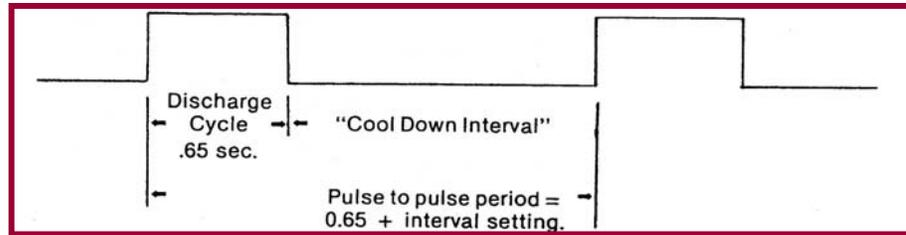

Figure 2.0-5: Automatic Mode Timing Cycle
**INTERVAL Adjust:** This rotary control is functional only in the Automatic mode and determines the time interval or delay between discharge pulses. The control is rotated clockwise to increase the time interval from a minimum of approximately 0.5 seconds to a maximum of 30 seconds. It should be noted that the interval setting of this control corresponds to the approximate “cool down” period between discharge cycles. Since each discharge cycle lasts about 0.65 seconds, the minimum discharge period (pulse to pulse duration) is about 1.1 seconds. This timing relationship is illustrated in Figure 2.0-5.